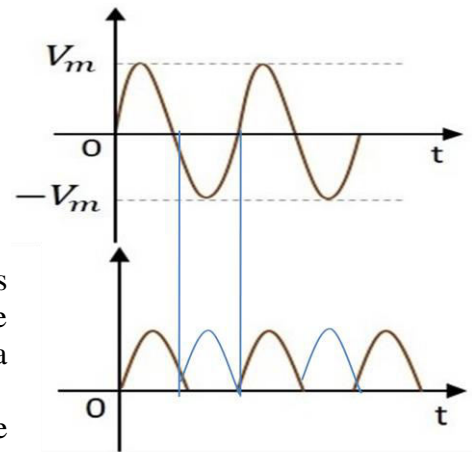

Fig. PS3
Rectifier: During the process of rectification, the alternating current (AC) as obtained from the output of the transformer is changed into direct current (DC). With the use of diode based full wave rectifier circuit the current is allowed to flow only in positive direction and resisted in negative direction, just as in the Fig.PS3. (It is already studied in details in SEM-III in analog electronics)
Filters: The rectified version contains ripple in the signal, denotes the presence of some AC component. This ac component has to be completely removed in order to get pure dc output. So, we need a filter circuit that smoothens the rectified output into a pure dc signal. A **filter circuit** is one which removes the ac component present in the rectified output and allows the dc component to reach the load (Fig. PS3). The filter circuits are constructed using different combination of inductor and capacitor.